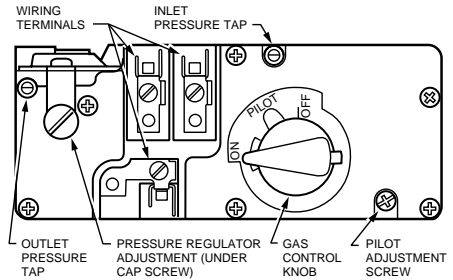

Fig. 5. Top view of gas control with standard regulator.
2. With the main burner operating, check the gas control flow rate using the meter clocking method or measure the pressure by attaching a plastic tube with a 1/4 in. shell I.D. to the manometer and connecting the manometer to the outlet pressure tap on the gas control. See Fig. 5.